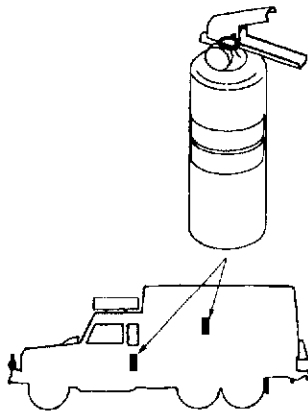

Figure 1-18 Fire Extinguishers
98. Fire Extinguishers (Fig. 1-18)